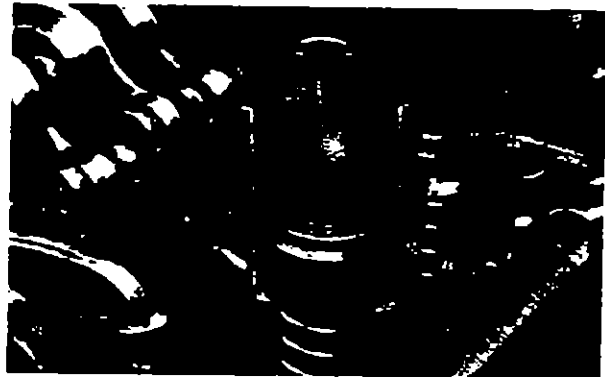

Fig. 1.6.20
3. Using the Jacobs clamping tool, back off the thumb screw. Install the tool squarely over the valve stem cap with its feet under the exposed coil of the valve spring (Fig. 1.6.20). Tighten the thumb screw to seat the cap. Remove the tool.